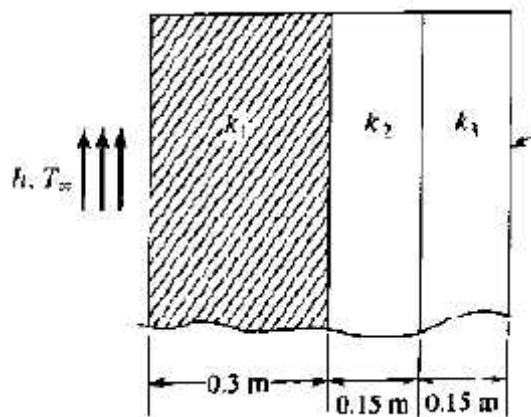

Fig. 6
7. A composite wall consists of three materials, as shown in the Fig. 6. The outer temperature is $T_0 = 20^\circ$ C. Convective heat transfer takes place on the inner surface of the wall with $T_\infty = 800^\circ$ C and $h = 25$ W/m².°C. Determine the temperature distribution, if $K_1 = 20$ W/m °C, $K_2 = 30$ W/m °C, $K_3 = 50$ W/m °C.